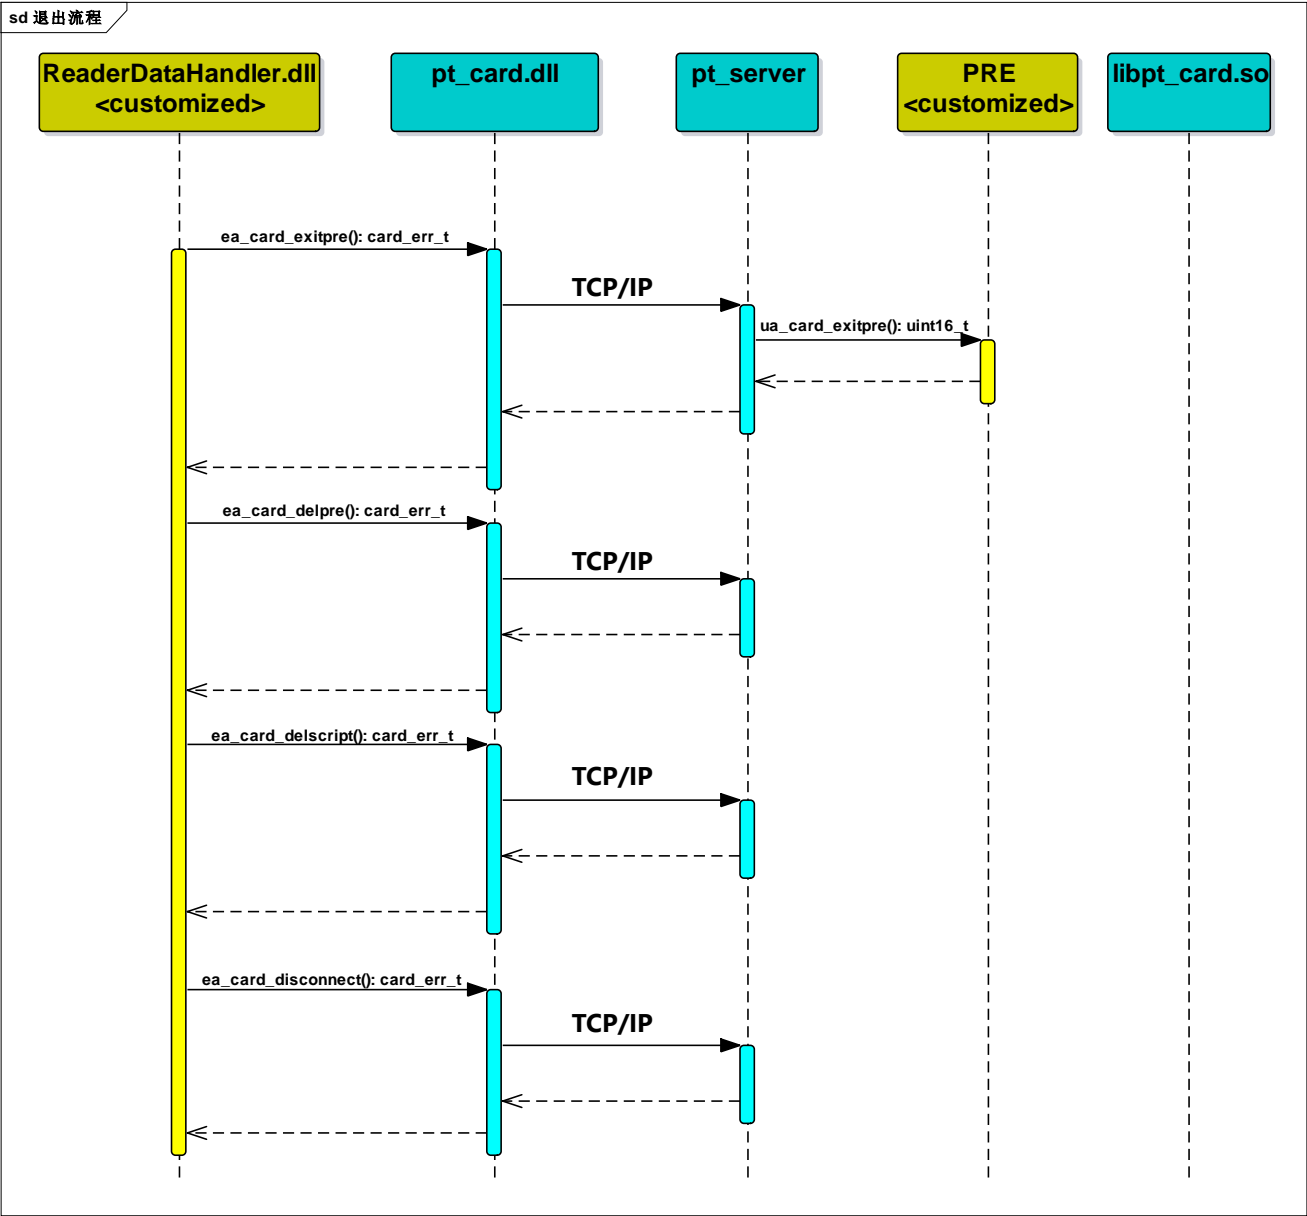

Figure 3.6 Exit Process
- Exit process: The user program completes the operation of disconnecting the reader by calling the interface function of pt_card.dll, as shown in Figure 3.6.